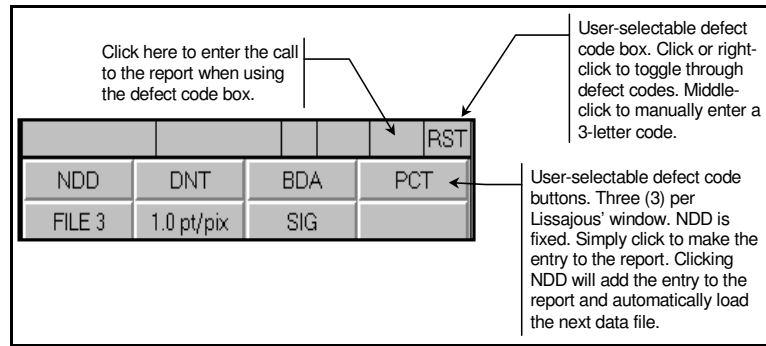

Figure 3-12. The Defect Code Buttons Below a Typical Lissajous Window
There are two methods to access the defect codes from the current **Defect List** during analysis. One method is to assign selected codes to the three (3) programmable defect code buttons at the bottom of each Lissajous window. To assign a code to one of the buttons, **Shift+click** a button until the desired defect code is displayed. **Shift+right-click** on a button to display the previous defect code in the **Defect List**. Figure 3-12 shows the four (4) defect code buttons for a given Lissajous window setup for NDD (fixed), DNT, BDA, and PCT. Although NDD is fixed on the first button, you must include NDD on the defect list if you intend to use this button. The reason is that you must indicate which parameters you desire to be reported when an NDD call is made. Clicking NDD not only enters an NDD call to the eddy current report, but it also advances to and loads the next data file from the TLIST.
The other method of selecting defect codes for a given analysis call is to **click** or **right-click** the upper-right box shown in Figure 3-12 until the desired defect code appears. The defect code RST is shown as an example in the figure. Once the desired defect code is displayed, **click** in the box adjacent to the left to enter the call to the report. This method is handy if it is desired to see the defect code on graphic print-outs. Finally, you can **middle-click** the defect code box, and simply type in a 3-letter code of your choice; however, the defect code must exist in the defect list.